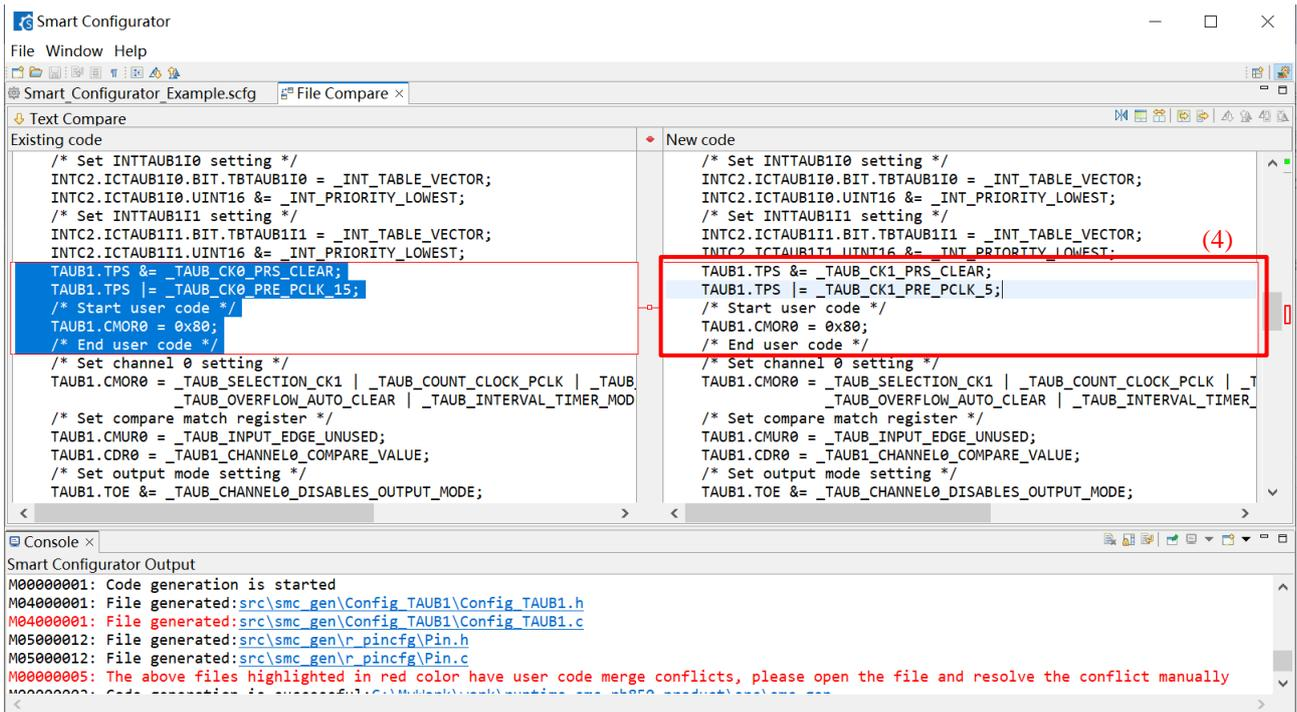

Figure 10-7 Code after deleting and saving
- 4) Save the modified code (Figure 10-7 Code after deleting and saving).